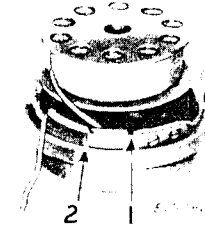
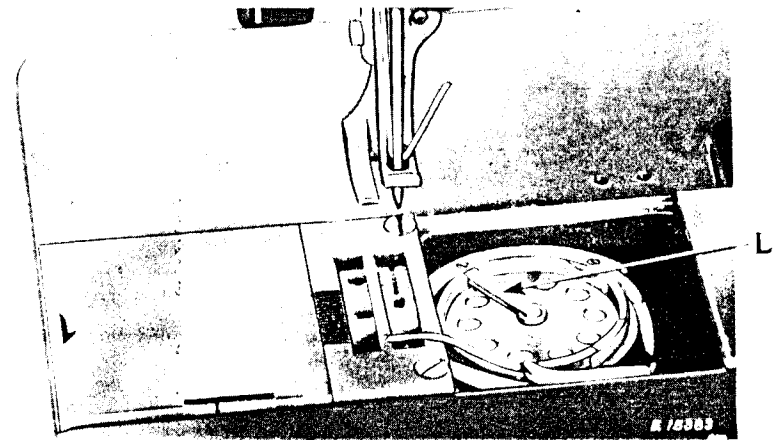

Fig. 10. Direction of Thread on Bobbin
Fig. 11. Bobbin Case Threaded
Apply a few drops of oil four times daily to the felt pad in the side wall of the bobbin case as illustrated in Fig. 10.
shown in Fig.10, and place it on the center stud of the bobbin case, then push down the latch (L, Fig.11). Draw the thread into the slot (1, Fig.10), under the tension spring and into slot (2) as shown in Figs.10 and 11, leaving a loose end of thread about two inches long above the slide. When closing the slide plate, leave just enough space for the thread to pass through.